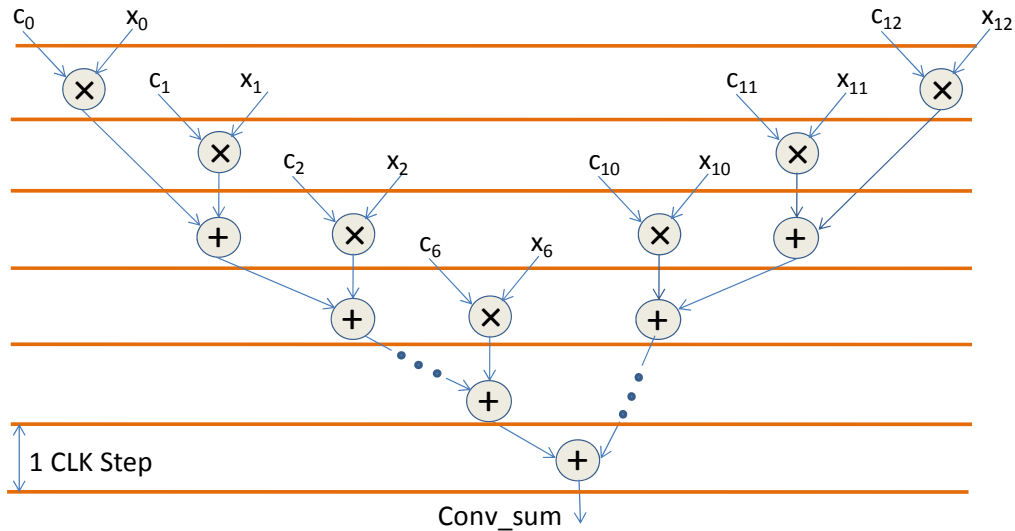

Figure 6. Partially parallel FIR filter
In this lab, you are supposed to implement an asymmetric partially parallel FIR filter. Save your code in IL2225\_LAB/LAB1/PartiallyParallelFIR/SOURCE). The architecture of the partially parallel FIR filter is shown in figure 6.
**Question:** How many adders and multipliers are there in the critical path of the FIR filter with the architecture shown in Figure 6? \_\_\_\_\_